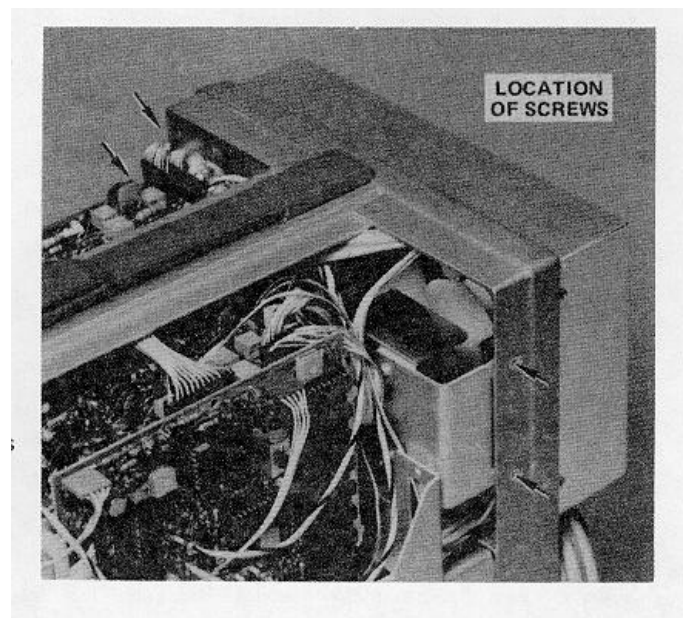

Figure 4-5. Location of screws holding Low-Voltage sub-chassis
1. Remove the four screws holding the Regulator subassembly to the main chassis (see Fig. 4-5).